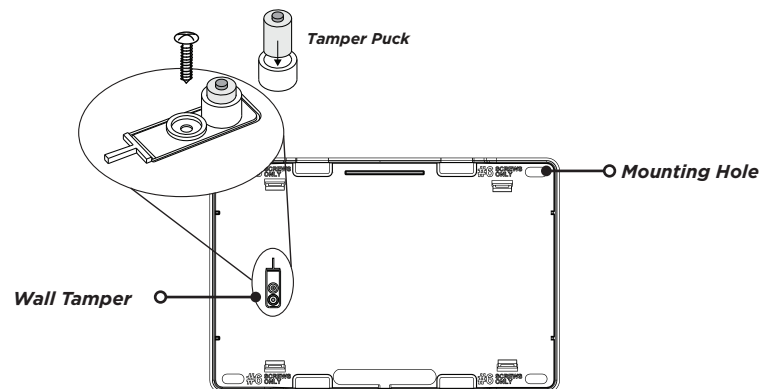

Figure 2: Inside of the 1100X Housing
2. Use the included #6 screws to secure the 1100X to the wall. See Figure 2 for mounting hole locations.
3. Use one of the provided screws to secure the wall tamper. See Figure 2 for tamper location.
2. Connect the other end of the wires to the terminals 7, 8, 9, and 10 on the panel. See Figure 2.